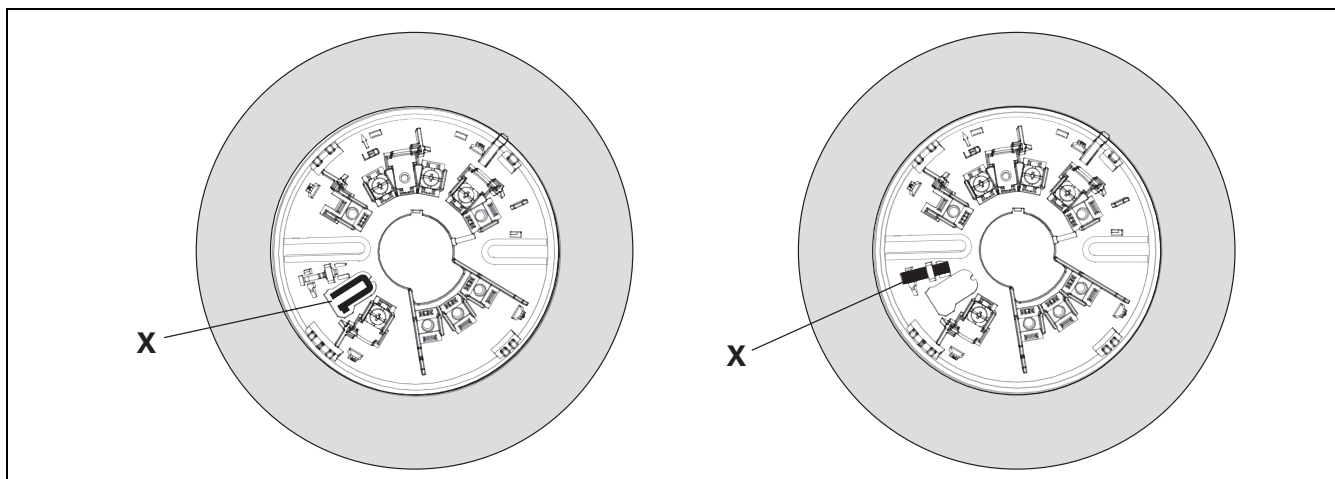

Figure 4.2 Activating the Locking Mechanism
The detector bases are supplied with a snap-off locking bar (X) as part of the base moulding to prevent malicious removal of the detector. The locking mechanism is selectable and is activated by shifting the U-shaped locking bar (X) into the position as shown in *Figure 4.2*.